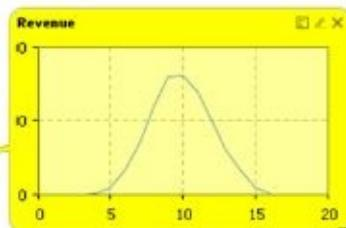

Figure 6.29 Total revenue of several products launched at approximately same time
20. Starting with the *Revenue* variable created in the previous step, draw the stock and flow diagram as shown in Figure 6.29.
As you can see, shortly after the model starts, the *InvestmentCapital* stock falls down below zero, see Figure 6.29. It happens because at the beginning of the simulation the company starts too many (100) R&D projects simultaneously; they consume money, but bring in no revenue. As the products are launched in the market, the stock goes back up and then follows the S-shaped curve typical for systems with saturation. The *MainCapital* stock has a slight depression during the products' introduction period and then follows the same S-shaped curve.